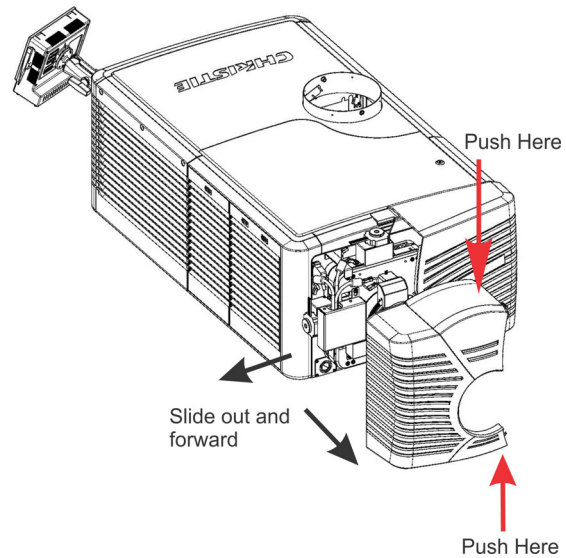

Figure 2-11 Shroud Removal
1. Using finger pressure, push down on the locations specified (Red Arrows). See Figure 2-11.